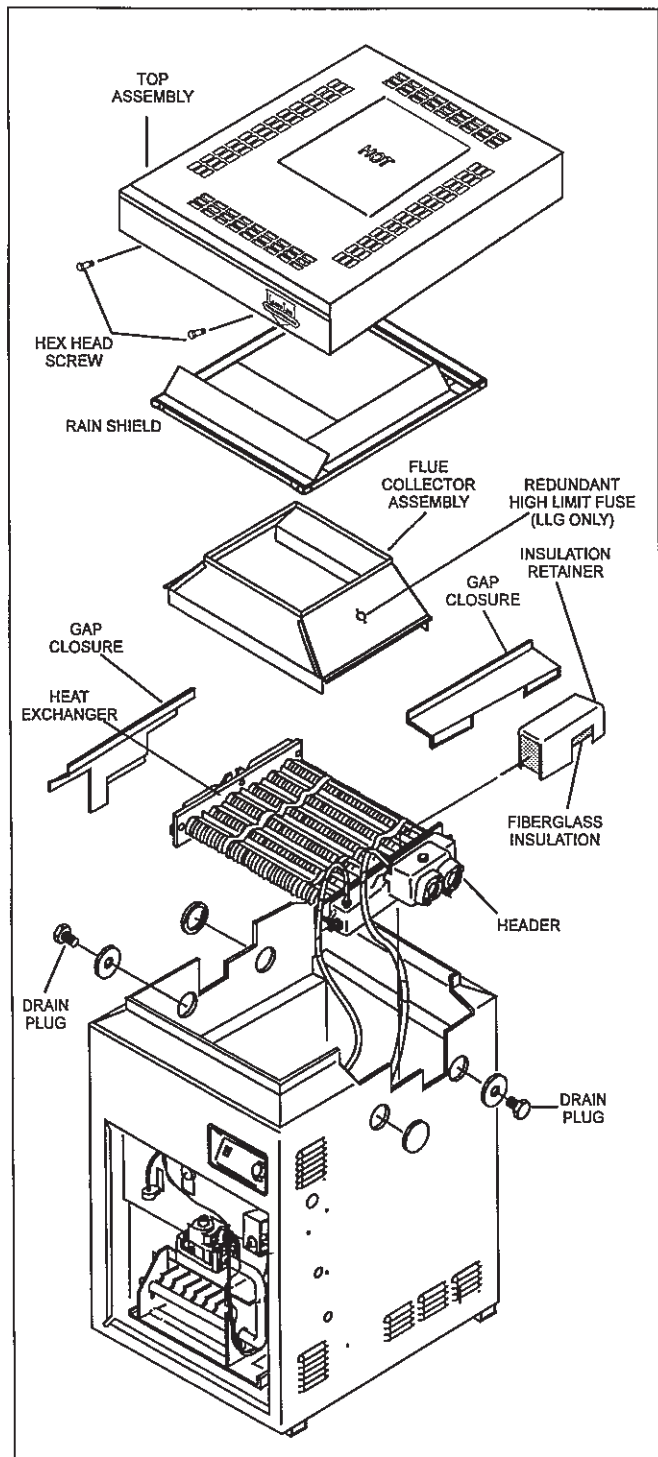

Figure 12. Heat exchanger reversal.
3. Remove all hex-head screws fastening the top and lift the top assembly straight up (see Figure 12).
7. Disconnect the two yellow leads (Model LLG only) from the redundant limit fuse located on the flue collector (see Figure 12).
9. Remove the three jacket/plug grommets and drain plugs (see Figure 12). One set is located under the water connections on the right side. The other is on the left side toward the front of the heater.